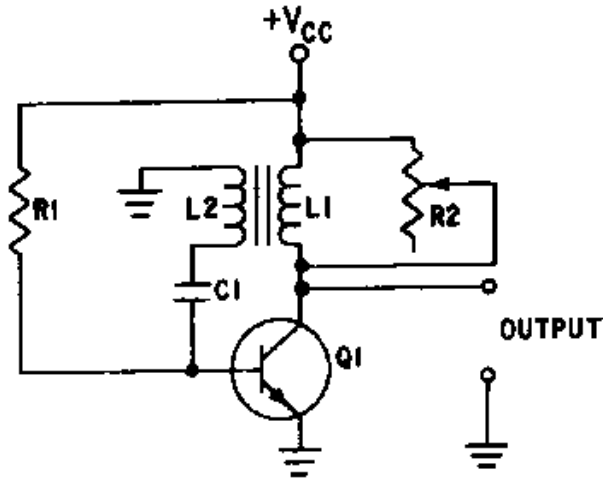

Figure 3-35.—Circuit damping.
The collector waveform may have an INDUCTIVE OVERSHOOT (PARASITIC OSCILLATIONS) at the end of the pulse. When Q1 cuts off, current through L1 ceases, and the magnetic field collapses, inducing a positive voltage at the collector of Q1. These oscillations are not desirable, so some means must be employed to reduce them. The transformer primary may be designed to have a high dc resistance resulting in a low Q; this resistance will decrease the amplitude of the oscillations. However, more damping may be necessary than such a low-Q transformer primary alone can achieve. If so, a DAMPING resistor can be placed in parallel with L1, as shown in figure 3-35.
When an external resistance is placed across a tank, the formula for the  $Q$  of the tank circuit is  $Q = R/X_L$ , where  $R$  is the equivalent total circuit resistance in parallel with  $L$ . You should be able to see from the equation that the  $Q$  is directly proportional to the damping resistance ( $R$ ). In figure 3-35, damping resistor  $R_2$  is used to adjust the  $Q$  which reduces the amplitude of overshoot parasitic oscillations. As  $R_2$  is varied from infinity toward zero, the decreasing resistance will load the transformer to the point that pulse amplitude, pulse width, and prf are affected. If reduced enough, the oscillator will cease to function. By varying  $R_2$ , varying degrees of damping can be achieved, three of which are shown in figure 3-36, view (A), view (B) and view (C).